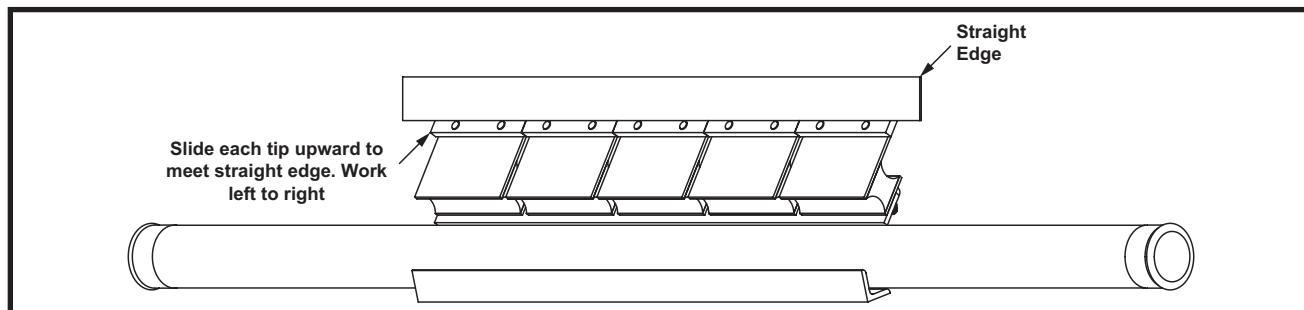

Figure 37. Martin® P2 Secondary Belt Cleaner HD Tip Alignment
7. Position tips so there is no more than a 1 mm (0.7 in.) gap between them. Position a straight edge along the top surface of new blade tips. Working left to right, pull upward on each blade to align with the bottom of the straightedge and tighten the nuts. (Refer to Figure 37.)